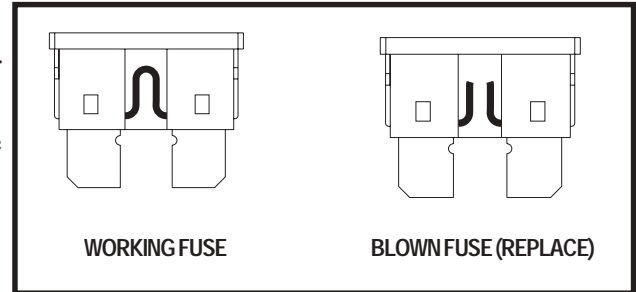

Figure 10. Fuse Replacement
2. Examine the fuse to be sure it is blown. See figure 10.